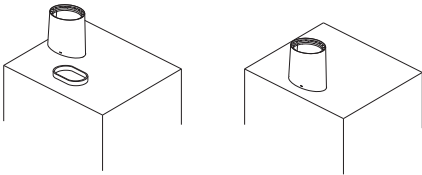

Figure 10
- **Oval outlets (Figure 10)**